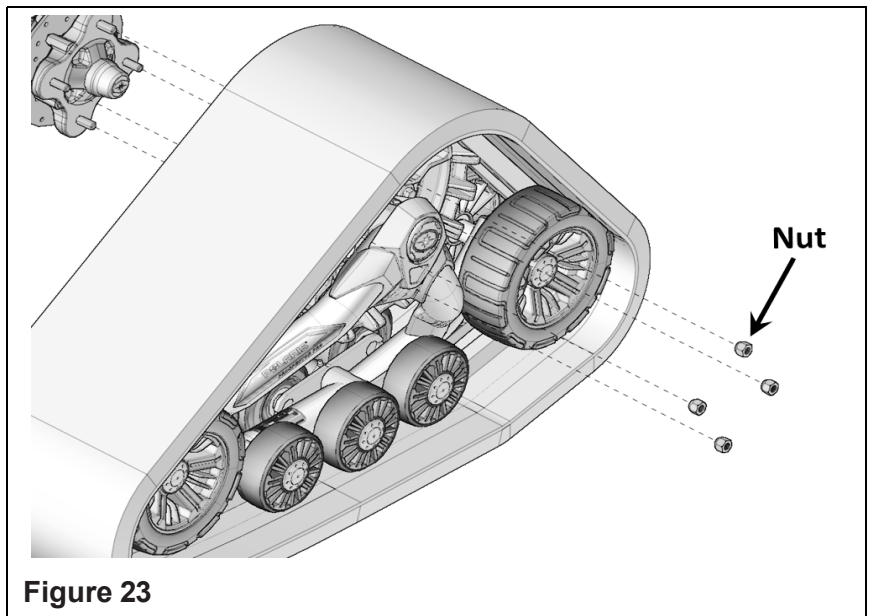

Figure 23
11. Secure the undercarriage to the front hub using the nuts provided in this mount kit. Figure 23.